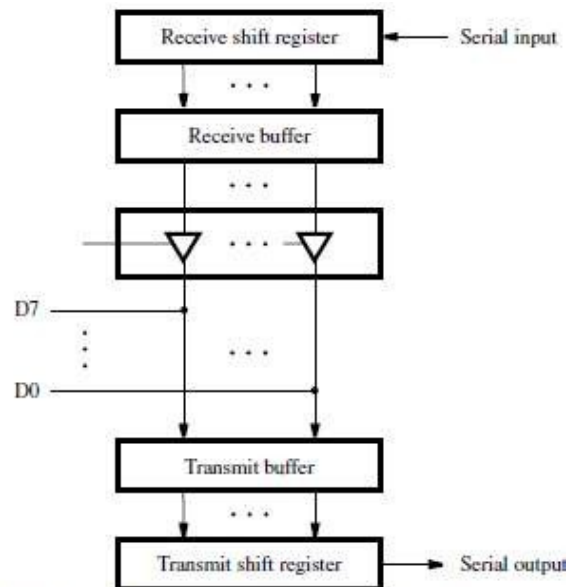

Figure 10.7 Receive and transmit structure of the serial interface.
- The serial interface provides the UART capability to transfer data (Figure 10.7).